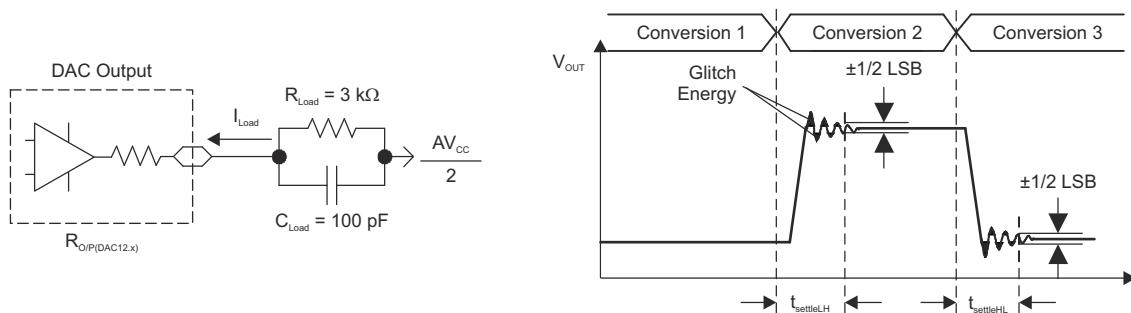
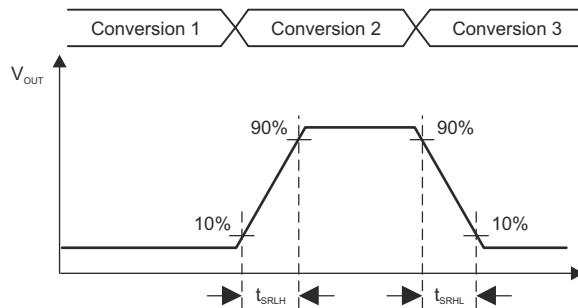

Figure 8-21. Settling Time and Glitch Energy Testing
Figure 8-22. Slew Rate Testing
V_{REF} = V_{CC}, DAC12IR = 1 (see Figure 8-21 and Figure 8-22), over recommended ranges of supply voltage and operating free-air temperature (unless otherwise noted)
(1) R_{Load} and C_{Load} connected to AV_{SS} (not AV_{CC}/2) in Figure 8-21.
(2) Slew rate applies to output voltage steps ≥ 200 mV.